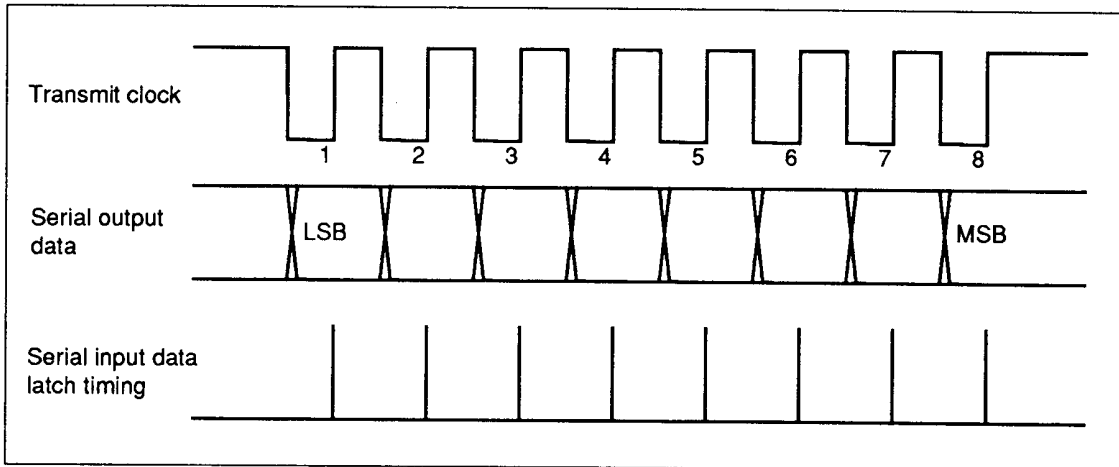

Figure 27 Timing of Serial Interface Output
**Serial Data Register (SRL: \$006, SRU: \$007):** Eight-bit read/write register separated into upper and lower digits located at sequential addresses. Data in this register is output from the SO pin, LSB first, in synchronism with the falling edge of the transmit clock; and data is input, LSB first, through the SI pin at the rising edge of the transmit clock. Input/output timing is shown in figure 27.